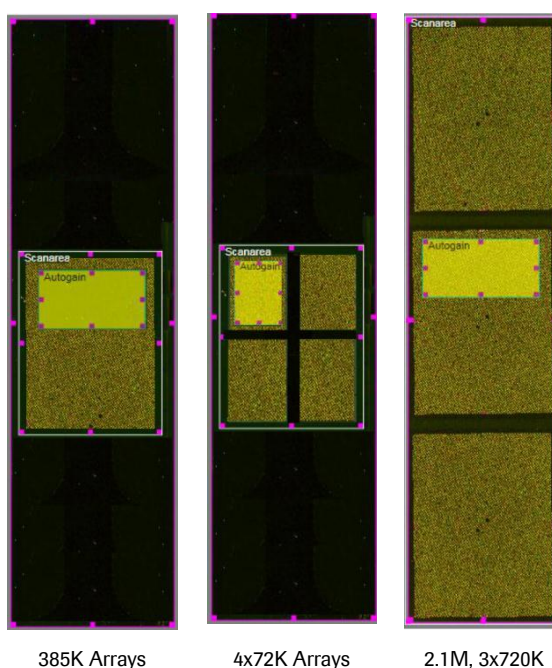

Figure 15: Examples of Autogain Areas for NimbleGen Arrays
- d. Figure 15 provides guidance as to the size of and where to locate the autogain area.